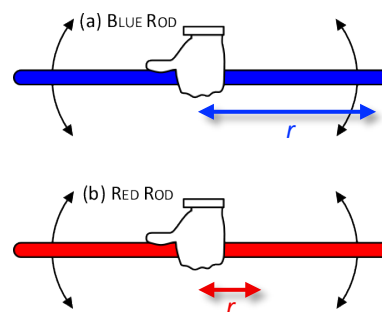

Figure 4: Twirling the (a) blue and (b) red plastic rods
- You will also find a blue and red plastic rod in the lab. *Both rods are of the same mass.* Using one rod at a time, hold it in the center with one hand, and rotate clockwise and counterclockwise (**Figure 4**). Now try it with the other rod, *using the same hand as before*. Which rod is easier to start rotating?
- Add **Figure 4** to the *Predictions* page of your journal, again labeling  $r$  for each, and explain why one rod is easier to rotate in terms of the moment of inertia.